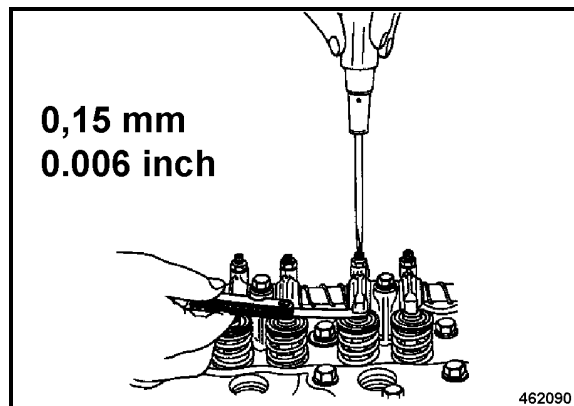

Fig. 150
- Check the gap between rocker arm and valve with a feeler gauge (Fig. 150).